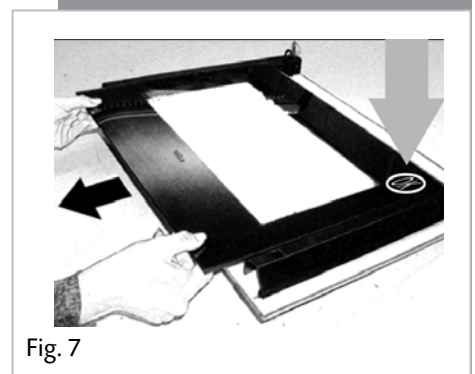

Fig. 7
3. Slide the door glass out in the direction shown in fig. 7.
**Please keep the ok symbol to the bottom right of the oven door (fig. 7).**